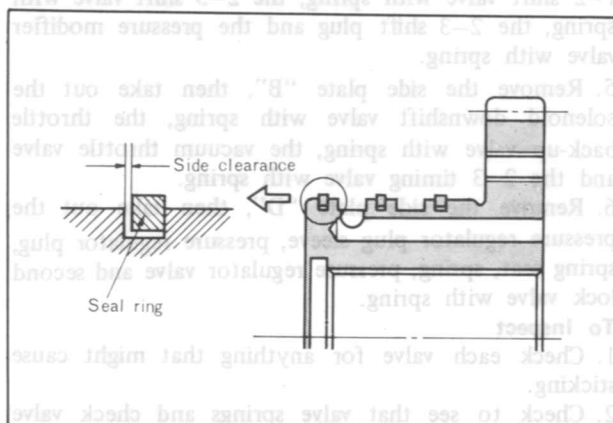

Fig. 7B-39 Clearance of oil seal ring
3. Check the side clearance between the sealing and groove as shown in Fig. 7B-39. The standard clearance is $0.04 \sim 0.16 \text{ mm}$ ($0.002 \sim 0.006 \text{ in}$). When disassembling the seal ring, squeeze it up so that its joint will rise above the groove, and disconnect the joint.